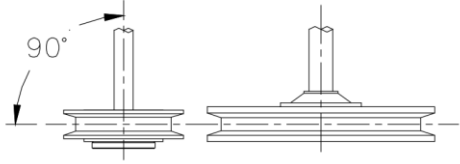

Figure 3
4. To align belt, lay a straight edge against the face of the flywheel touching the rim at two places. (Figure 3)